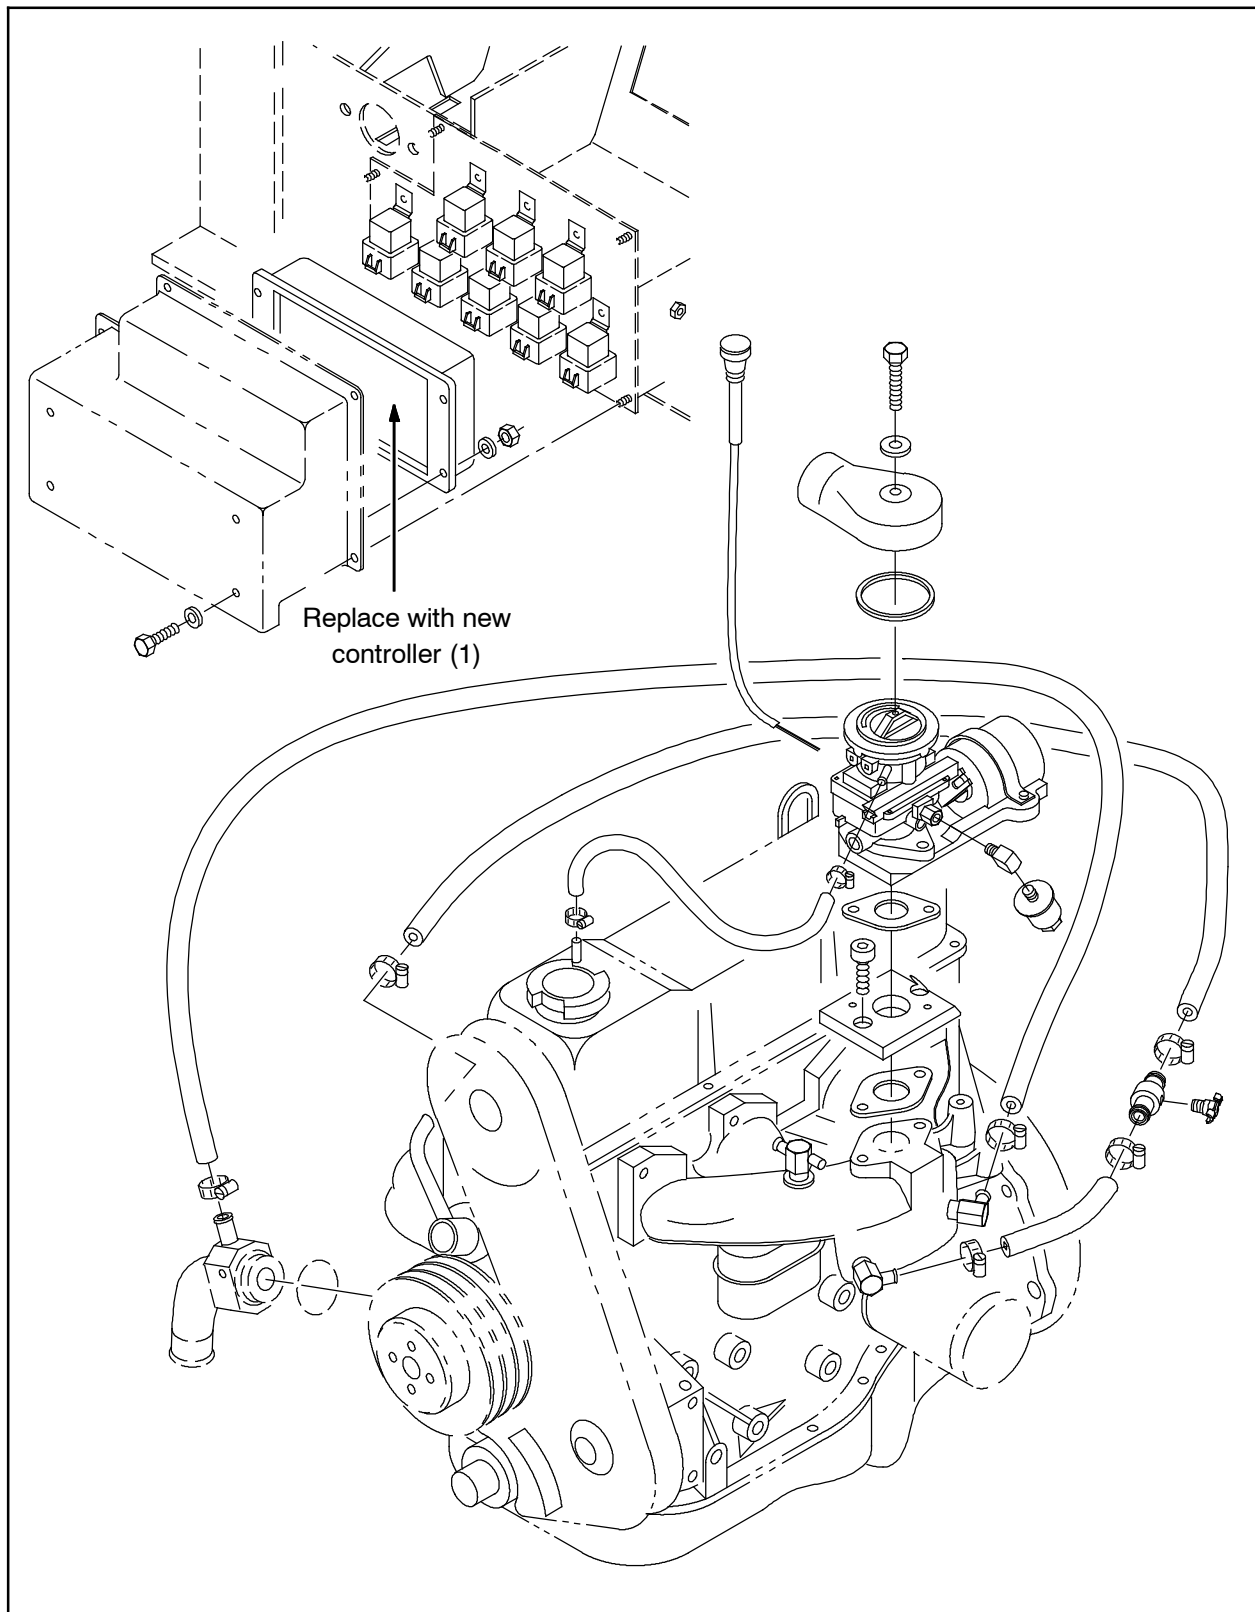

FIG. 4 - 800 Controller Location LP / Gas / Diesel
8. Remove the controller from the machine and discard the controller. Set the mounting hardware aside. (Fig. 4)
9. Set up the controller (1). Refer to the **SET UP NEW DIGITAL CONTROLLER** instructions for information to setup the controller.
10. Connect the main wire harness to the new controller (1). Do not secure the controller to the machine. The controller is secured to the machine after it is tested.
14. Install the controller into the machine. (Fig. 4)